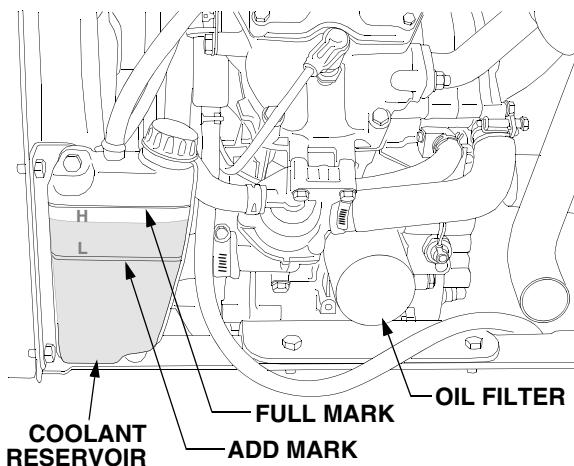

Figure 55
- Remove the filter by turning it counterclockwise using an automotive type filter wrench to loosen. See Figure 55.
- Raise the tractor hood and check the coolant level in the overflow reservoir on the *left* side of the engine. Refer to Figure 55.